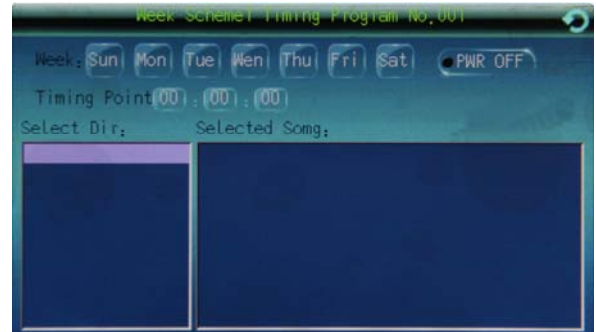

Figure 4.3 Timing Programming
2) On the above diagram, select the timing point to be edited, or click the “additional” button to enter the timing point editing interface. On such interface, it is allowed to set the time for execution of such timing point (e.g. from Monday to Friday), the starting time, and the program not to be played and the on-off state of the timing power. The interface is shown in Figure 4.3. Click the date following the item “week” to select, e.g. from one to five. The digit of the date selected will be displayed in red, and the duration for execution of such timing point is from Monday to Friday.